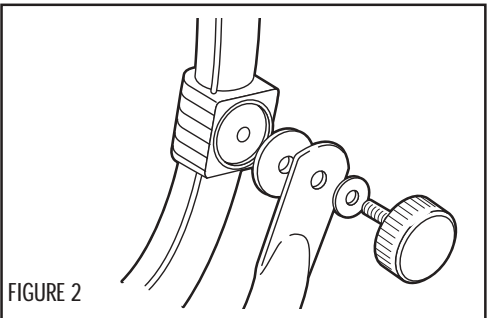

FIGURE 2
- Step 2. Insert the thumb bolt and metal washer through the side of the base and into the fan head. Do the same on the opposite side of the fan head. (figure 2)